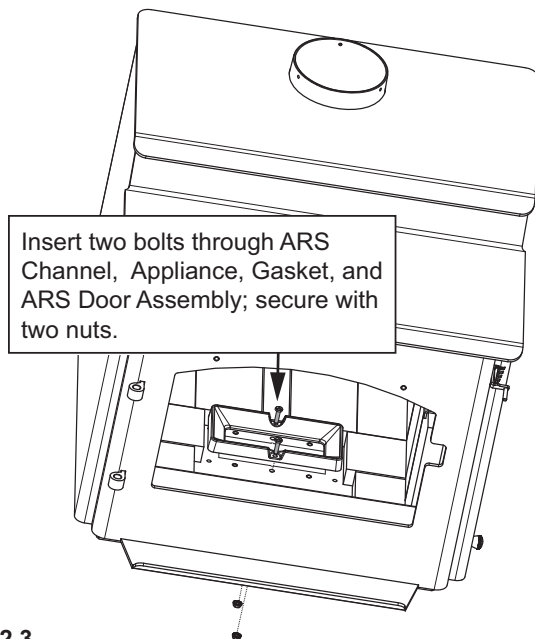

Figure 22.3
11. Using two bolts and two flange nuts to secure ARS channel using 3/8 open end wrench and 7/16 socket wrench (**Figure 22.3 on page 22**).
11. Use 2 bolts and two flange nuts to secure ARS channel using 3/8 open end wrench and 7/16 socket wrench (**Figure 22.3 on page 21**).